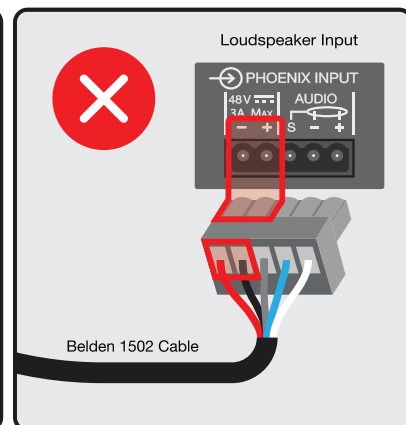

Figure 2. Incorrect, Polarity of 48 V DC Conductors is Reversed at Loudspeaker.
- 2) If the polarity of the power conductors is reversed (Figure 2).